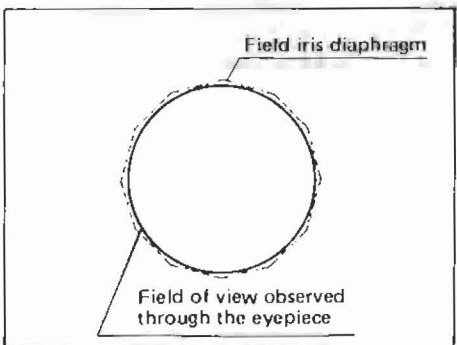

Fig. 24
- 1) The field iris diaphragm controls the diameter of the ray bundle impinging on the specimen and therefore, by stopping down the field diaphragm until it is slightly larger than the field of view, it can reduce stray light, which in turn increases image definition and contrast. (Fig. 24)